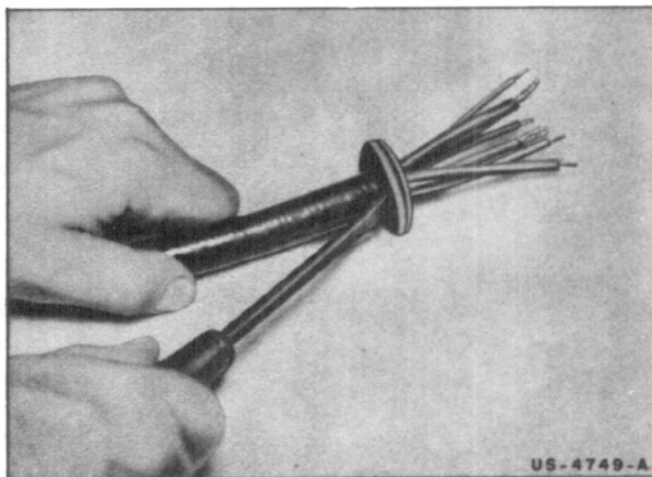

Figure 2-5—Installing Rubber Washer.
**h. INSTALLING THE RUBBER WASHER.** — The rubber washer should be forced down and in between the soldering ferrule and the end of the sheath as shown on Figure 2-5.